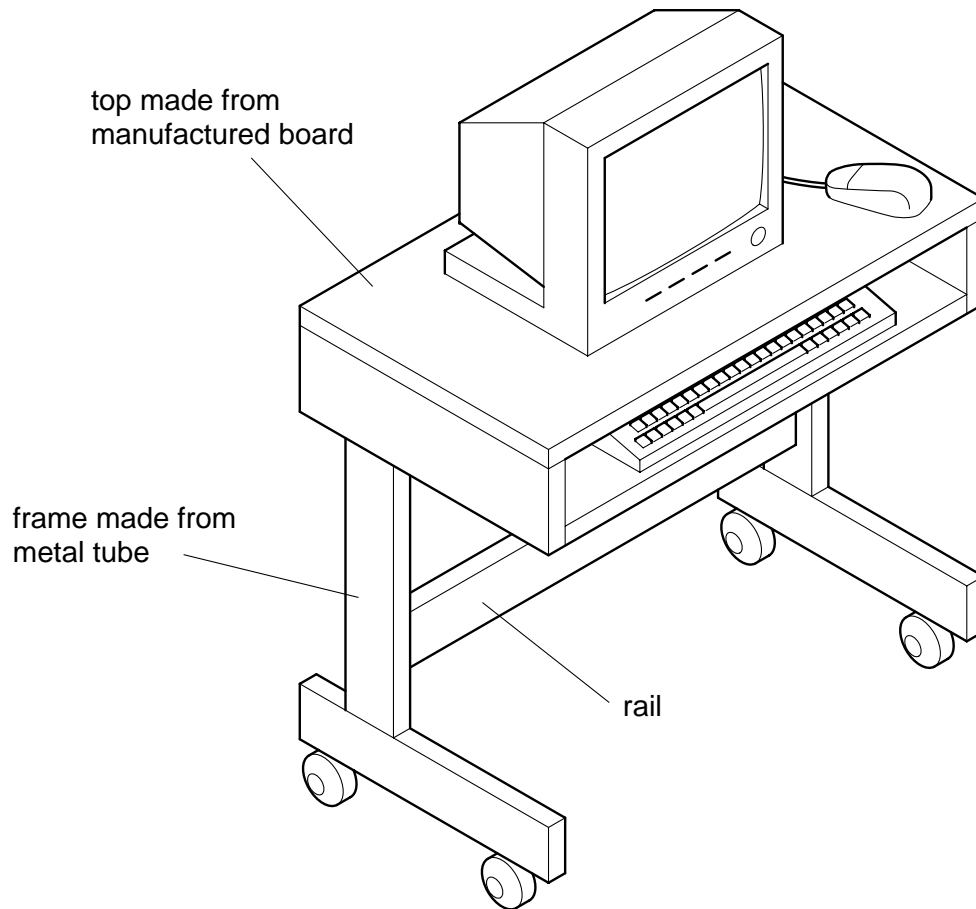

Fig. 12
- 11 Fig. 12 shows a computer workstation. It is to be sold as a low-cost flat-pack, self-assembly product.